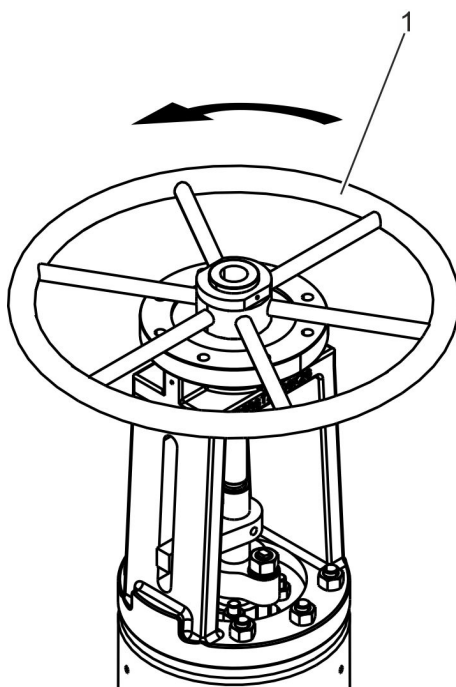

Fig. 20: Opening the valve
3. ➔ Turn the handwheel (Fig. 20/1) anticlockwise.